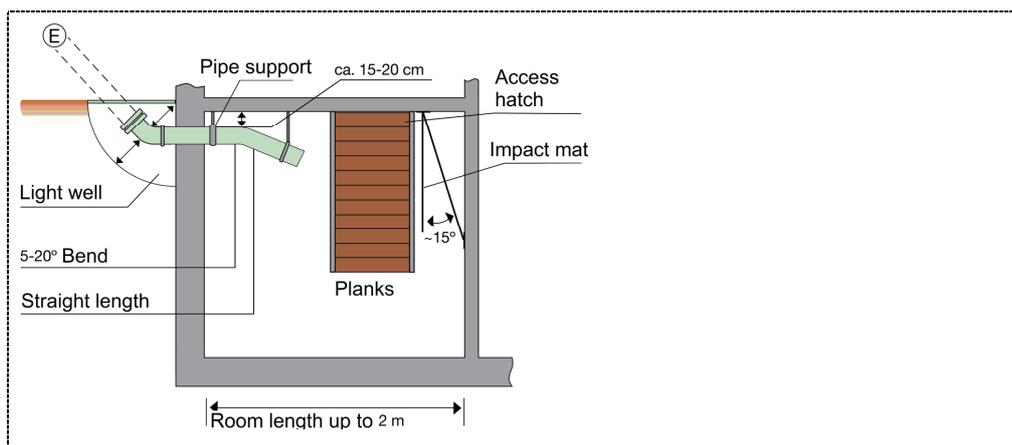

Figure 9 Best practise design of a storage room with a depth < 2m
Small stores, with a room depth of less than 2 metres, present a high risk of broken pellets due to impact forces. A special design of the injection pipe and the impact protection mat (see Figure 9) helps to avoid excessive mechanical stress on the pellets:
- The outlet of the injection pipe should direct the pellet stream slightly downwards (see Figure 9). This should be realised using a tube bending of 15-20 degrees followed by a final straight length of 30 cm. The straight length can also be realised by using a properly fixed length of conductible injection hose. In this case the inner steel spiral must have a firm connection to the metal pipe to provide earthing of the entire injection line.